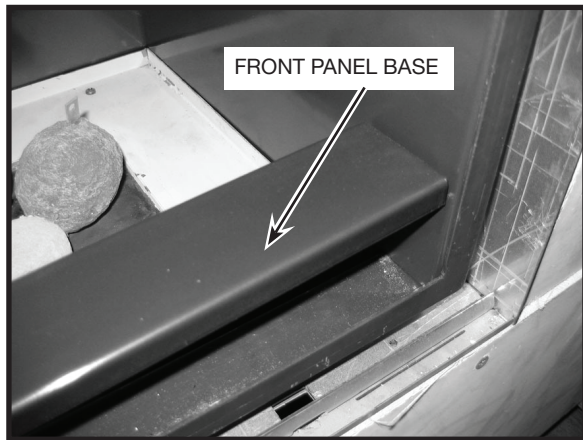

Figure 46: Front panel base.
1. Remove front panel base. Also remove rear panel base if Black Diamond Burner is fitted (Figure 46).